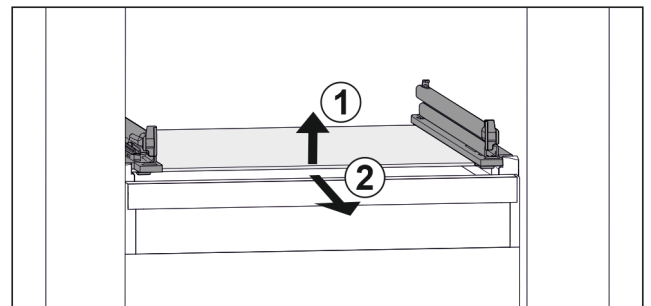

Fig. 54 Example illustration of glass shelf
- ▶ Lift glass shelf at the front. Fig. 54 (1)
- ▶ Take out glass shelf to the front. Fig. 54 (2)